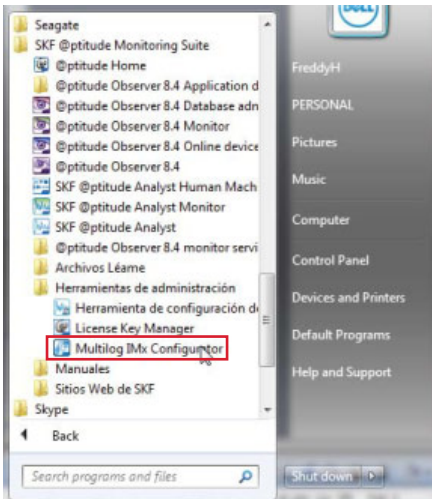

Fig. 5. Select Multilog IMx Configurator.
- Start *Multilog IMx Configurator* by going to **Start / All Programs / SKF @ptitude Monitoring Suite / Administrative Tools / Multilog IMx Configurator** (→ fig. 5).